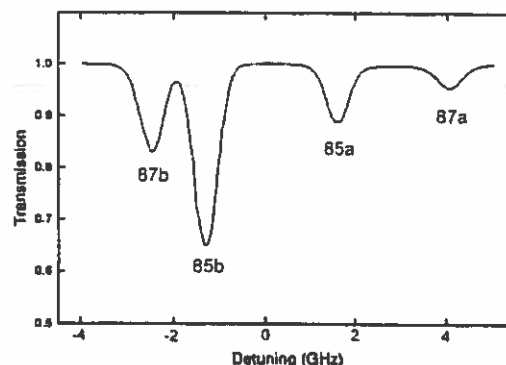
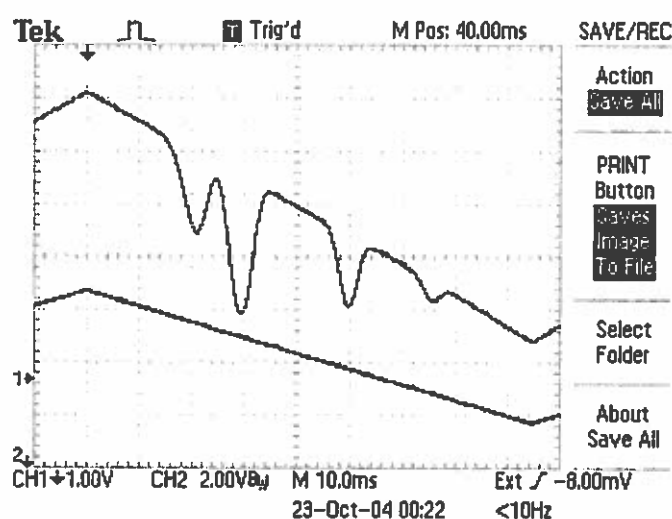

Figure 8: Doppler broadened spectrum
Figure 11: Expanded Scan Showing Four Absorption Lines
2. Turn the ramp generator amplitude up to maximum, and watch what happens when you turn up the current attenuator knob. With some tweaking you should be able to produce a full trace over the Rb spectrum. *The oscilloscope invert function has been used to show the trace in what "looks" more like an absorption spectrum in the Figure 11.* Note the correspondence to the expected atomic Rb spectrum shown in Figure 8